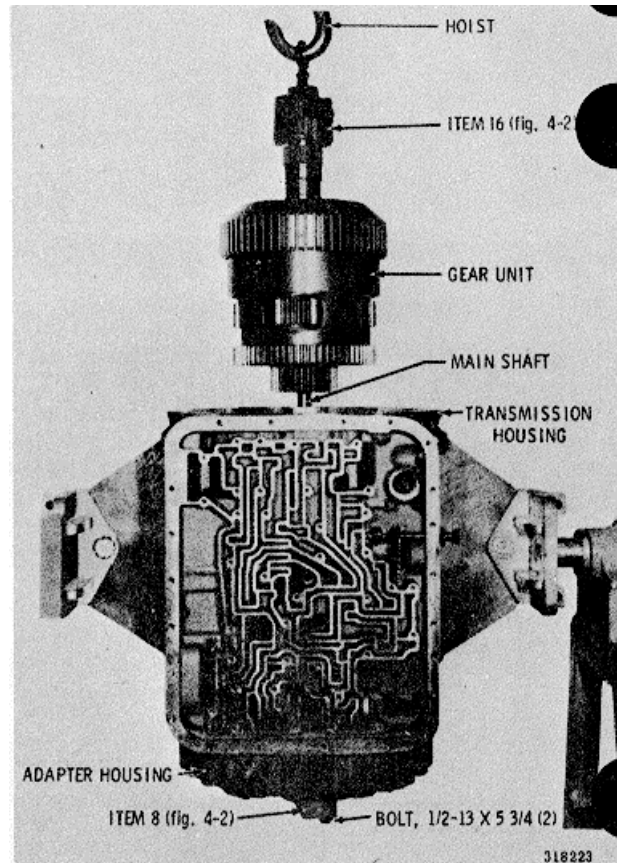

Fig. 5-45. Removing gear unit assembly
(1) With the output end of the transmission upward, install the adapter housing (less piston) and gasket.
(2) Place center support compressor bar 8 (fig. 4-2) across the rear of the adapter housing so that the center hole in the bar will engage the mainshaft (fig. 5-45).
(3) Install two bolts to retain the tool and the adapter housing to the transmission housing.
(5) Refer to paragraph 6-19 for rebuild of the center support assembly.
(6) Attach lifting bracket 16 (fig. 4-2) to the main shaft of the gear unit assembly (fig. 5-45).
(7) Attach a hoist to the lifting bracket eyebolt and remove the gear unit and shaft assembly from the transmission housing (fig. 5-45).
(8) Refer to paragraph 6-26 for rebuild of the gear unit and shaft assembly.
(10) Remove the two bolts retaining the tool 8 (fig. 4-2), adapter housing and gasket to the transmission housing (fig. 5-45). Remove the tool, housing and gasket.
(11) Refer to paragraph 6-23 for rebuild of the transmission housing.